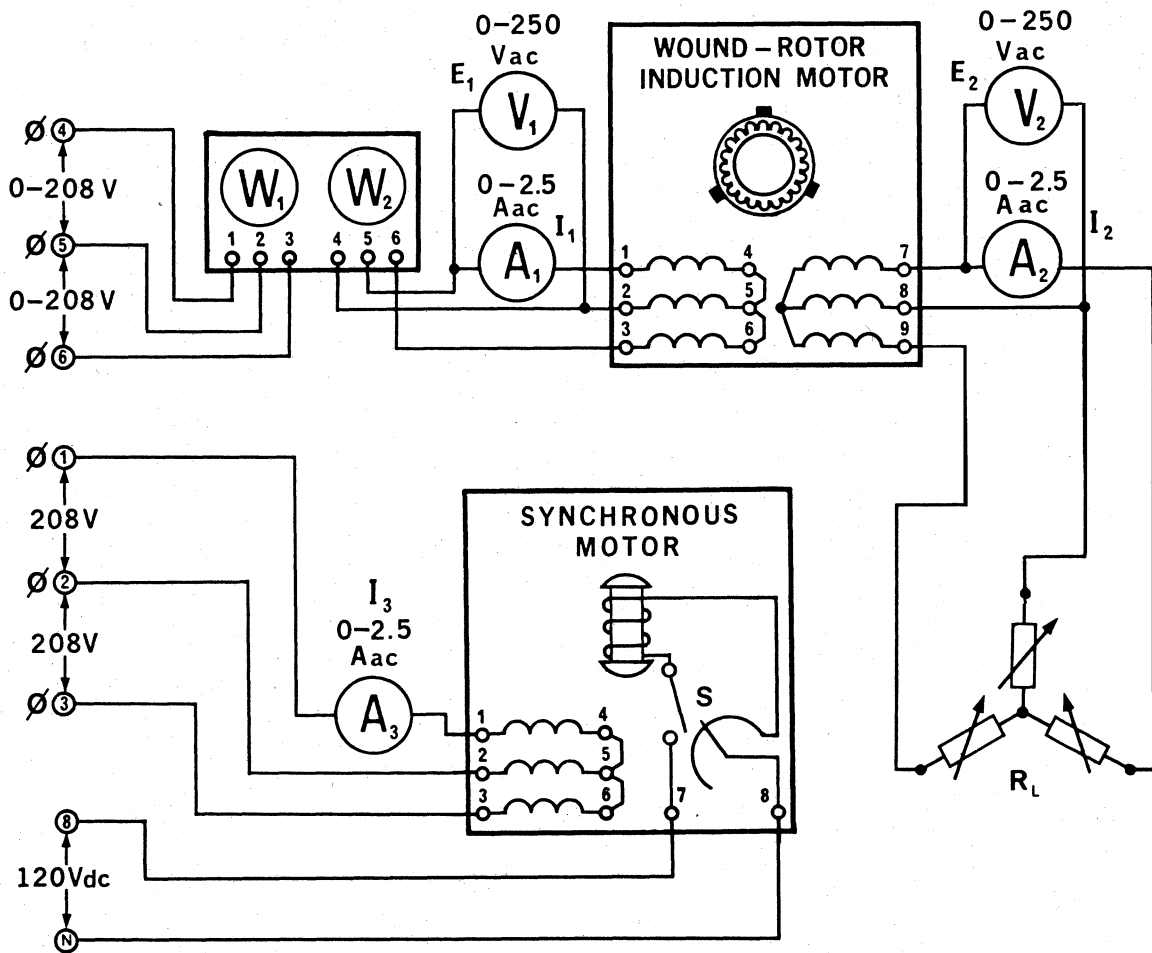

Figure 15-1.
- 1. Using your Three-Phase Synchronous Motor/Generator, Three-Phase Wound-Rotor Induction Motor, Three-Phase Wattmeter, Resistive Load, Power Supply, AC Ammeter and AC Voltmeter, connect the circuit shown in Figure 15-1. Note that the stator of the synchronous motor is connected to the fixed 208 V 3 ϕ output of the power supply, terminals 1, 2 and 3. The rotor of the synchronous motor is connected to the fixed 120 V dc output of the power supply, terminals 8 and N. The stator of the wound rotor motor is connected, through the wattmeter, to the variable 0-208 V 3 ϕ output of the power supply, terminals 4, 5 and 6. The rotor windings are terminated at the star connected resistance load R_L (two Resistive Load in parallel).